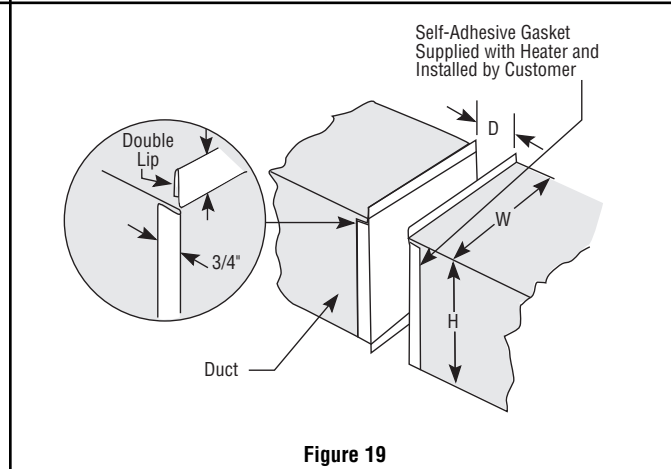

Figure 19
2. Form mounting flanges on cut edges of duct as shown in Figure 19.
2. Increase D-1 1/2" slot to "D" by forming a 3/4" double lip on each side of the duct. (See Figure 19).